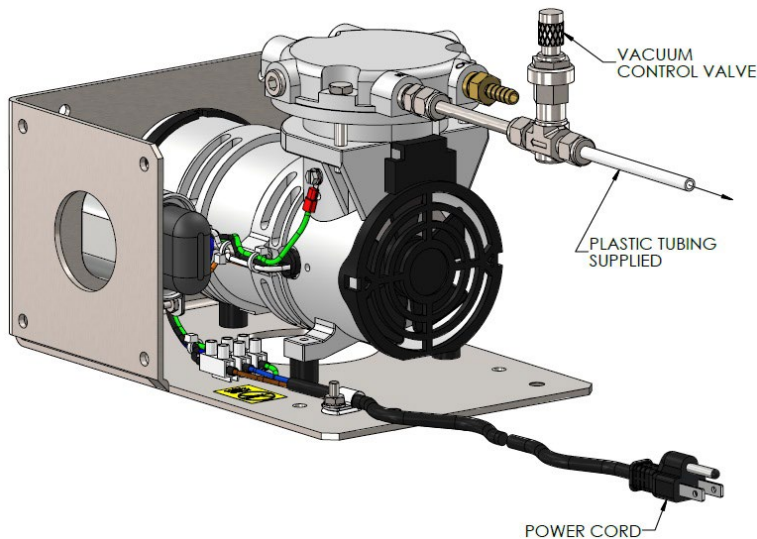

Figure 12: Vacuum Pump Assembly
10. If analyzer has vacuum pump, connect a line from the moisture sample outlet to the pump vacuum control valve (see **Figure 12**). For systems that do not have the HSS, use the provided polyethylene line. For systems with the HSS, use ¼ in stainless-steel line.